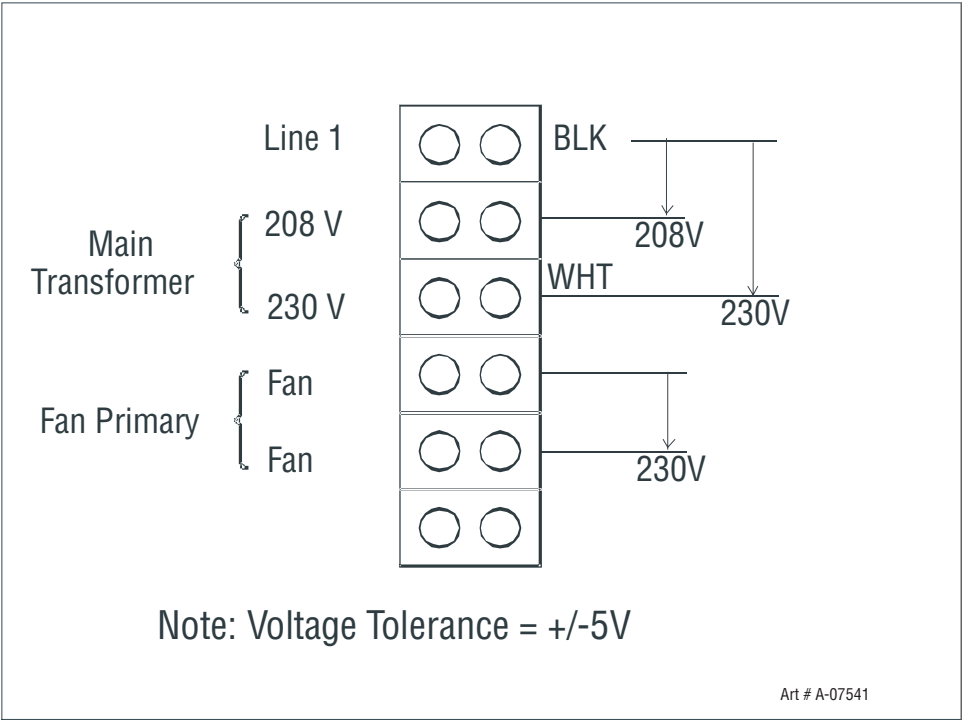

Figure 7-1: Input Terminal Block Diagram
- a. Measure for primary voltage at the Input Terminal Block between terminals 1 & 2 for 208 VAC input or between terminals 1 & 3 for 230VAC input (see Input Terminal Block Figure 7.1).